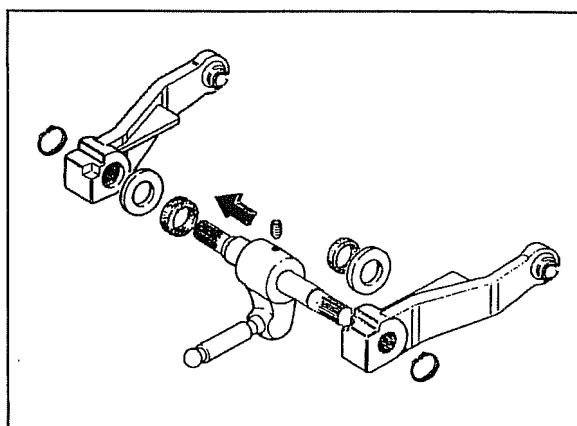

Fig. 33
- Turn the assembly upside-down and remove the shaft from the part that has the largest diameter-i.e., towards the right depending on the driving direction (direction shown by the arrow in Figure 33).
- Fig.33 shows an exploded view of the linkrod, shaft and lift arm ass'y.